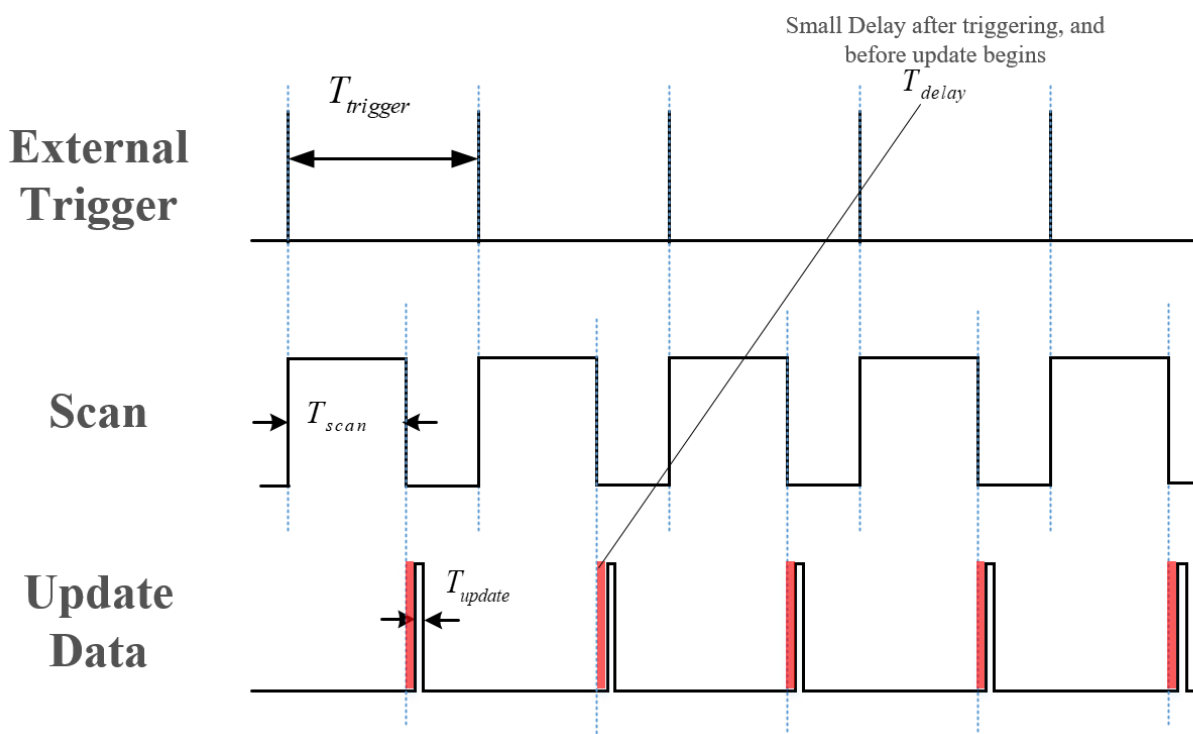

Figure 2: Periodic External Trigger Timing Diagram (timing not to scale)
- A slight delay occurs until the main application detects that the flag has been set (red bar in Figure 2.).